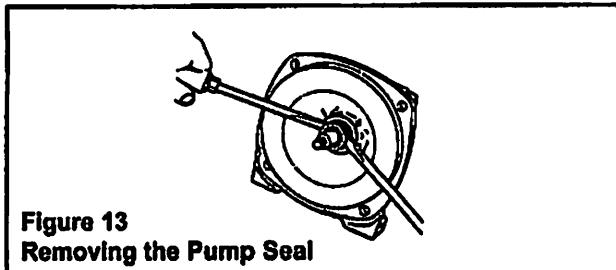

Figure 13
1. Lightly lubricate the shaft for easier removal of the seal. Using two screwdrivers positioned opposite each other, pry the rotary portion of the seal from the shaft (See Figure 13).